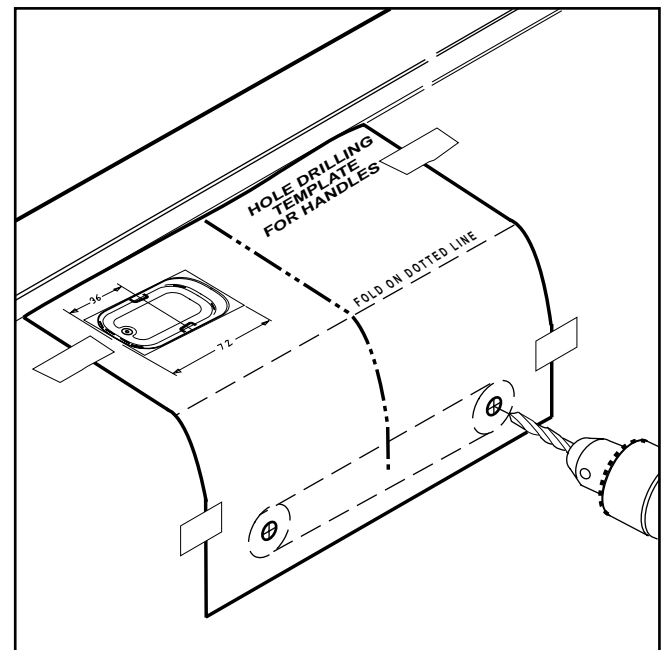

Figure 2. Tape the template in place and drill.
3. Using a scribe or an awl, mark the center points of the two hole positions Figure 2.